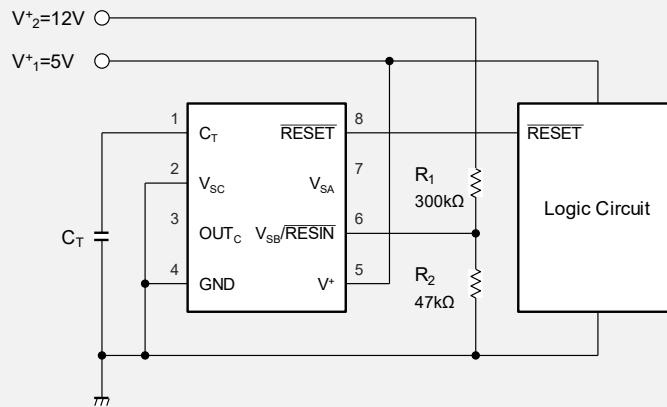

Fig. 5 5V, 12V power supply monitor (dual power supply monitor : V⁺₁=5V, V⁺₂=12V)
- V⁺₂ detection voltage (falling, rising) is set by R₁ and R₂ according to following formula. In case of resistor value in Fig.5, the detection voltage (falling) is about 9.0 V and the detection voltage (rising) is about 9.2 V.